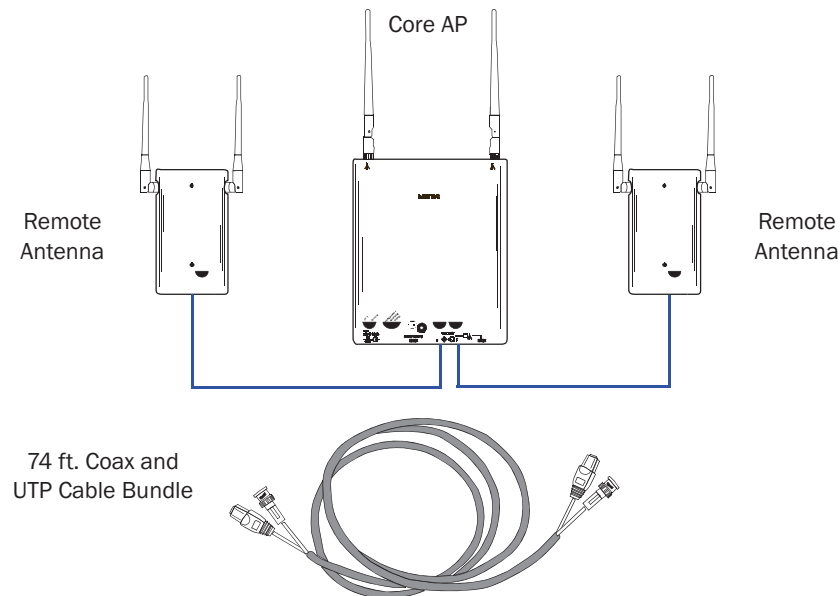

Figure 1-2: IntelliVue Telemetry System Core Access Point
The IntelliVue Telemetry System Core Smart-hopping Access Point (AP), Model ITS4843B (Figure 1-2), provides an air-link to transmit and receive data between ITS wireless clients and the Philips IntelliVue Information Center via the ITS infrastructure.